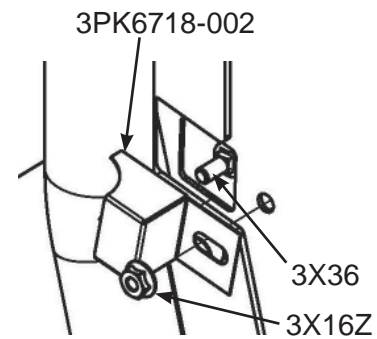

Fig. 7
- D. Fasten door handle pocket 3PK6718-002 using bolt (3X36) and nut (3X16Z) to mounting plate on each side (Fig 7).